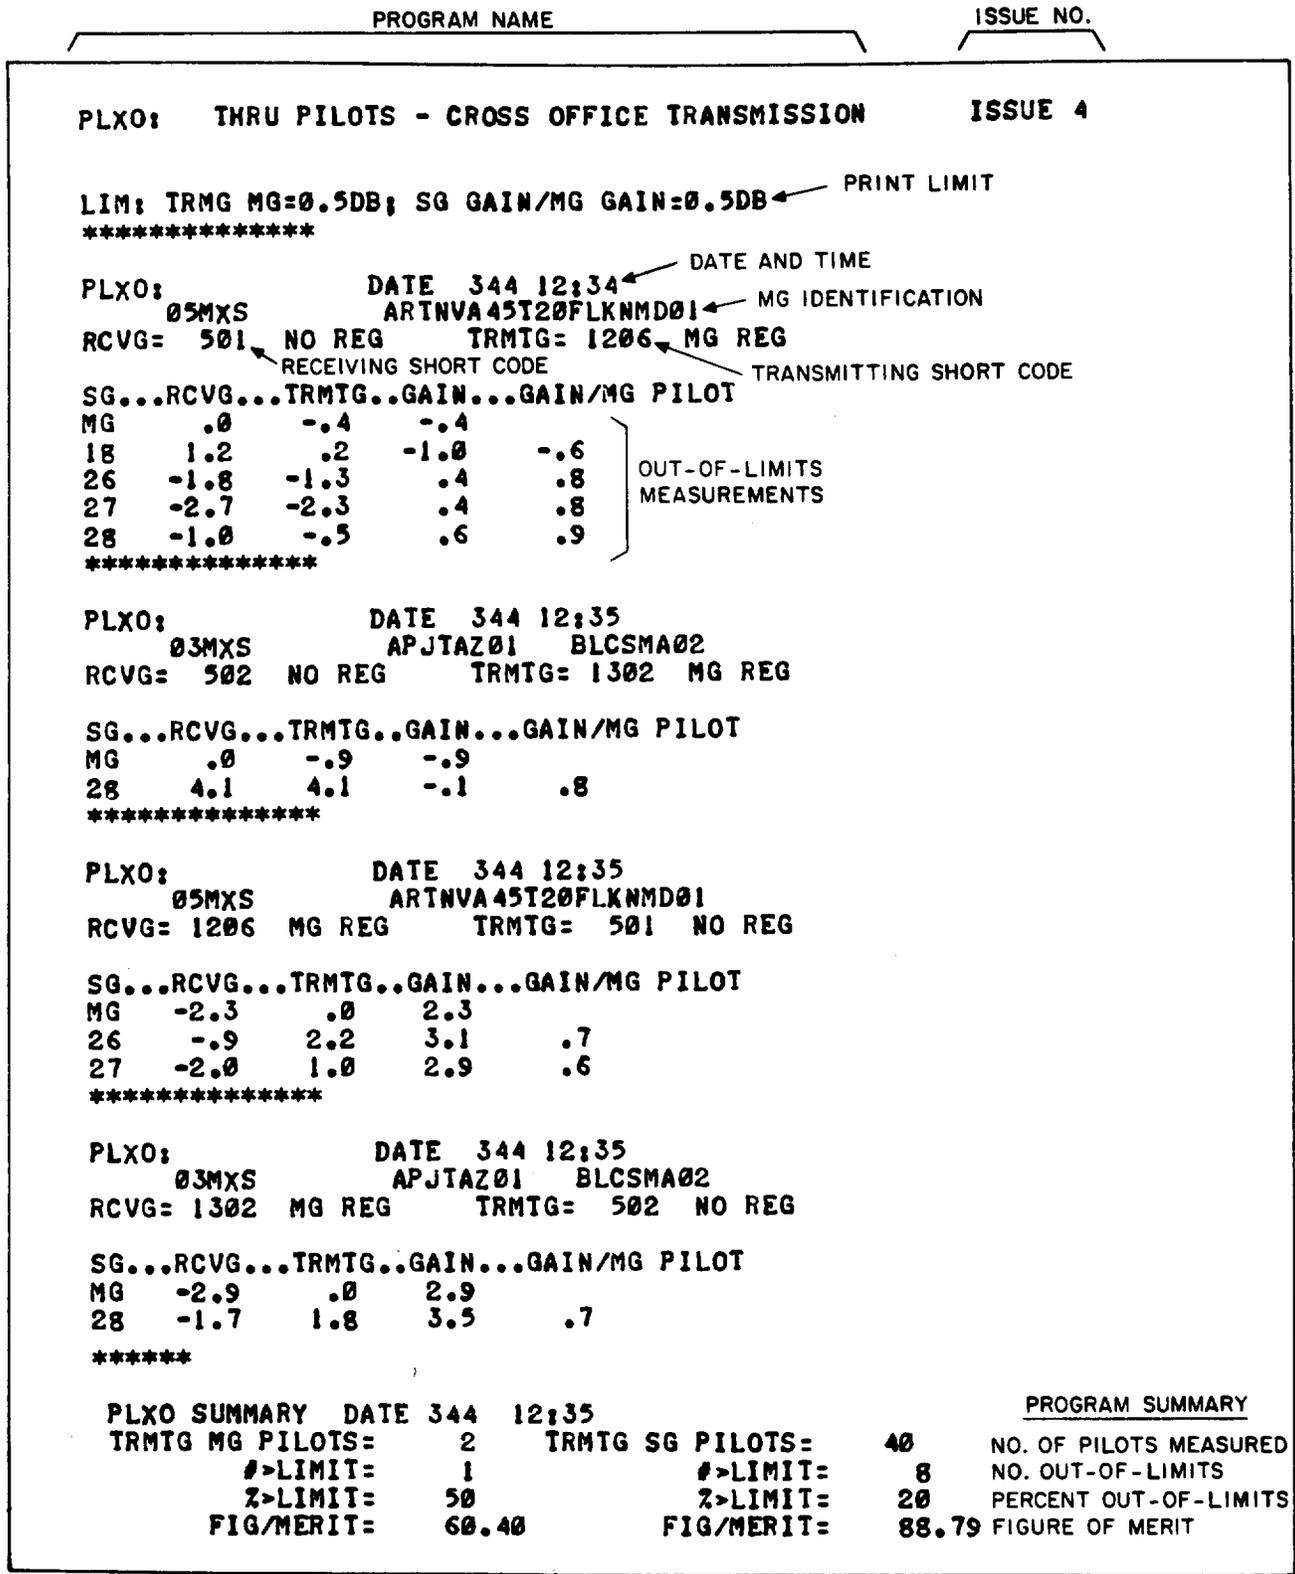

Fig. 9—PLXO Printout of Through Pilots and Cross-Office Transmission
**4.01** Figure 9 illustrates a typical routine PLXO printout. The print limit is  $\pm 0.5$  dB from nominal for a mastergroup and  $\pm 0.5$  dB from mastergroup pilot gain for a supergroup. If any supergroup pilot exceeds the print limit, the mastergroup pilot gain is printed for comparison. Because mastergroup pilots are blocked and reinserted, the measurements of receiving and transmitting mastergroup pilots are of different signal sources.
The program prints the pilot level deviations and calculates effective cross-office gain or loss from the differences between measurements. The meanings of some entries in the heading, measurement results, and summary of Fig. 9 have been identified for convenience.